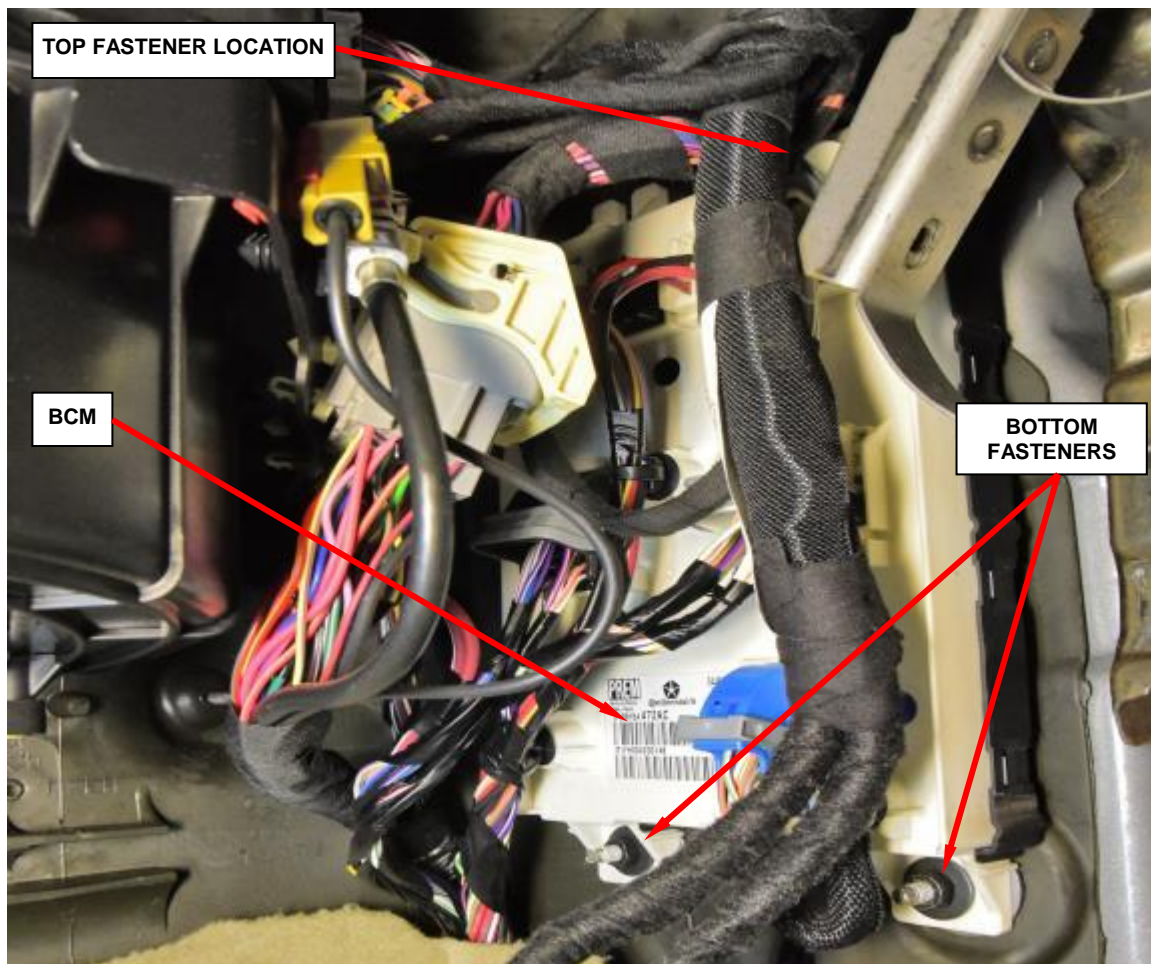

Figure 4 – Body Control Module
4. Remove and save the two fasteners at the bottom of the BCM (Figure 4).
5. Loosen the top fastener. This fastener only has to be loosened to allow removal of the BCM. It does not need to be completely removed in order to remove the module (Figure 4).